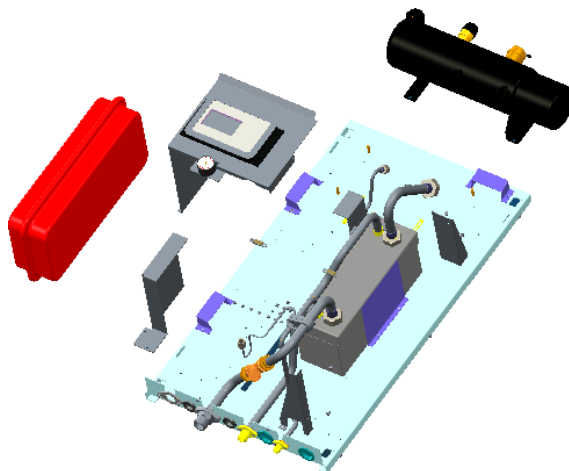

Fig.6
5) Expansion tank [See Fig. 6]